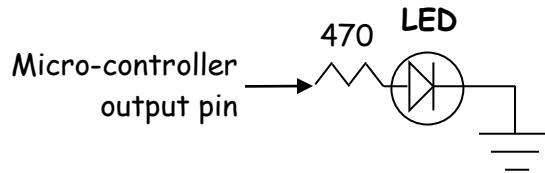

Figure 2.9 - Circuit diagram for LED (active high)
3. the "LED circuit" x 2 - Figure 2.9/2.10